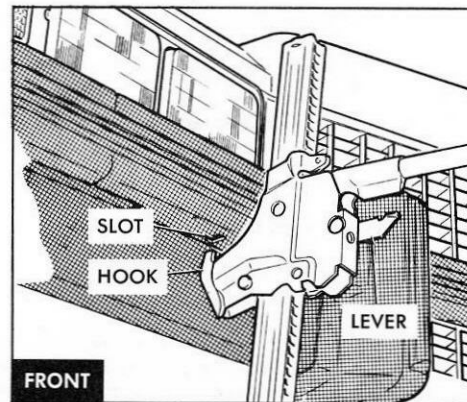

FIG. 3-4: JACK POSITION —
- Jack Position - Front: Insert jack hook into small slot in bumper directly below and between headlamps as shown, Figs. 3-4 or 3-6.